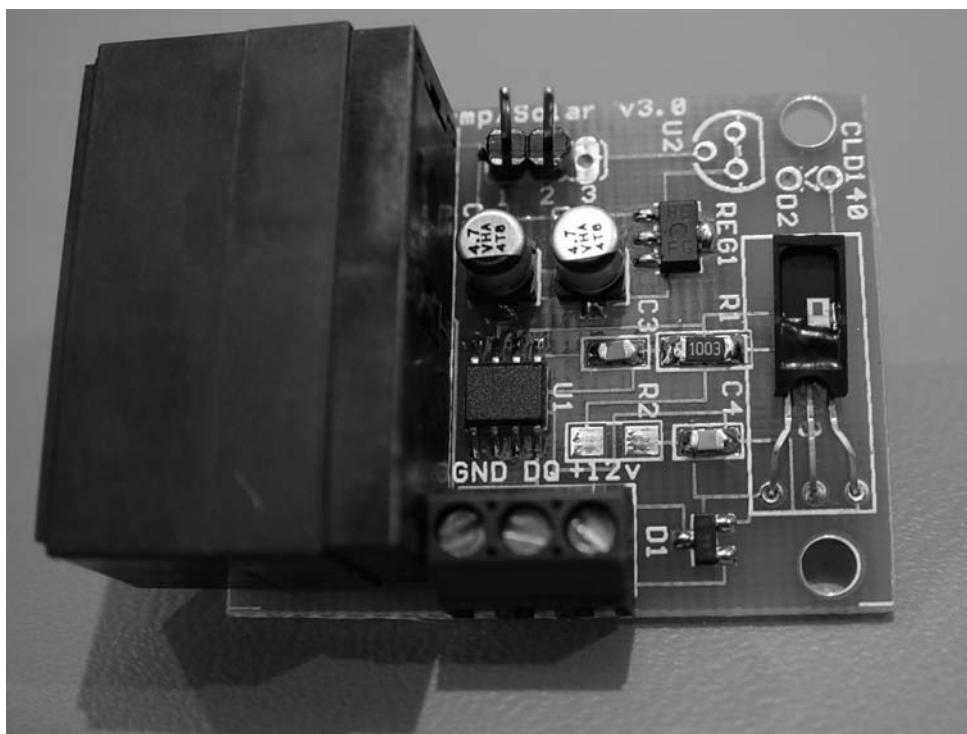

FIGURE 7-3: Completed Hobby-Boards module.
5. Inspect. Double-check your work for correct component installation and make sure there are no shorted traces. Figure 7-3 shows the completed board.